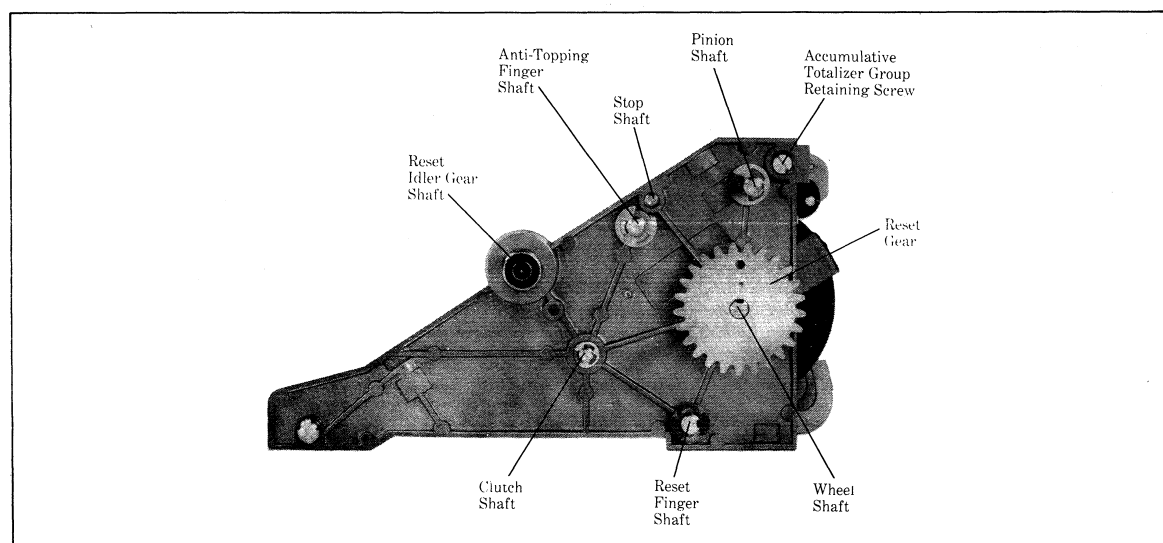

Figure 8. Left-Hand Side Plate.
- a. Remove retaining ring and washers securing the clutch shaft group to the left-hand side plate. See Figure 8.
- a. Remove retaining ring and washer securing the reset group to the left-hand side plate. See Figure 8.
- a. Remove the retaining ring and washers securing the anti-topping finger group shaft to the left-hand side plate. See Figure 8.
- a. Remove retaining ring securing pinion shaft to the left-hand side plate. See Figure 8.
- Install the shaft into the proper hole in the left-hand side plate. See Figure 8.
- Install anti-topping finger group in proper hole in left-hand side plate (see Figure 8). Be sure all fingers and clutch lever are free of wheels and the pin on the reset lever engages the track on the cam.
- b. Insert stop shaft into proper hole in left-hand side plate. See Figure 8.
- b. Install shaft into left-hand side plate and secure with retaining ring and washers. See Figure 8.
- a. Install shaft in proper hole in left-hand side plate. Add washers and secure with retaining ring. See Figure 8.